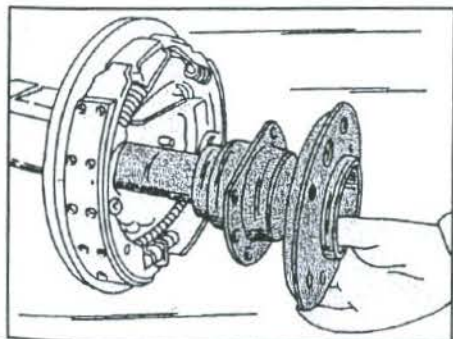

Fig. 5.5 – Fitting an axle drive shaft.
- Align the holes in the bearing cover with the holes in the brake backplate and the rear axle tube (Fig. 5.5) and fit and handtighten the bolts. The nuts are self-locking and must always be replaced. Tighten the nuts evenly across, until the bolt heads contact the bearing cover and the cover contacts the brake backplate. From this position tighten each nut by a further $\frac{1}{2}$ of a turn, until the correct tightening torque of 7.7 – 8.8 kgm (55 – 63.5 ft.lb.) has been obtained. Again the shaft flange must be rotated accordingly to insert a socket with a short extension.